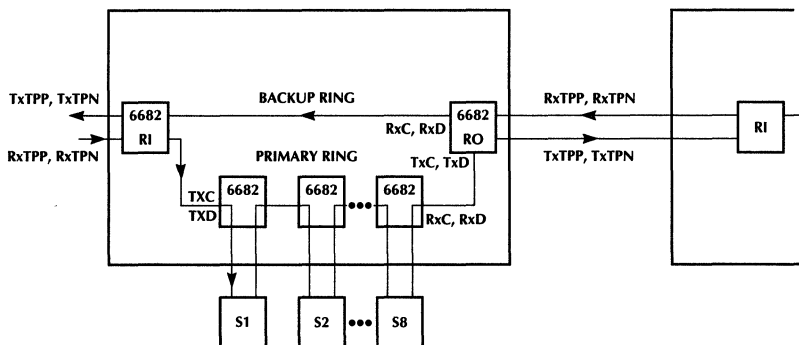

Figure 7. Intelligent UTP Hub.
Note 5: A. Difference between the delay from the nearest TxCLK rising edge to the TxTPPN differential BR edge and the delay from the nearest TxCLK rising edge to the TxTPPN differential BR/2 edge. Measured for either rising output edges or falling output edges only, with measurements made for each. Measurements are to be made at the output of both test circuits shown in Figure 3. (See waveforms in Figure 7 –4 of draft IEEE 802.5q/D4).
B. Difference between the delay from the nearest TxCLK rising edge to the TxTPPN differential edge and the delay from the nearest TxCLK rising edge to the TxTPPN differential edge. Measured for either rising output edges or falling output edges only, with measurements made for each using random data (JKs, 0s, 1s). Measurements are to be made at the output of both test circuits shown in Figure 3. (See waveforms in Figure 7 –4 of draft IEEE 802.5q/D4)
Figure 7 shows a block diagram of an intelligent UTP Hub implementation with active retiming on each port. The architecture shown has a back up ring for fault tolerant operation. The Ring In and Ring Out ports use phantom current to detect wire faults. When a fault is detected, the Ring-In and Ring-Out port go into the bypass state and perform an automatic loopback onto the Back-up Ring. This feature is especially useful in stackable hub designs.